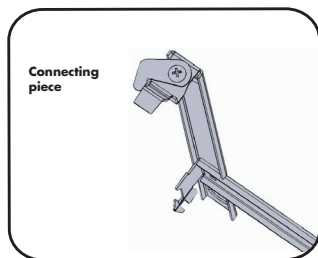

Fig. 1a: Connecting piece
2. Fasten the connecting piece (see Fig. 1a) on the wall holder using the screw.